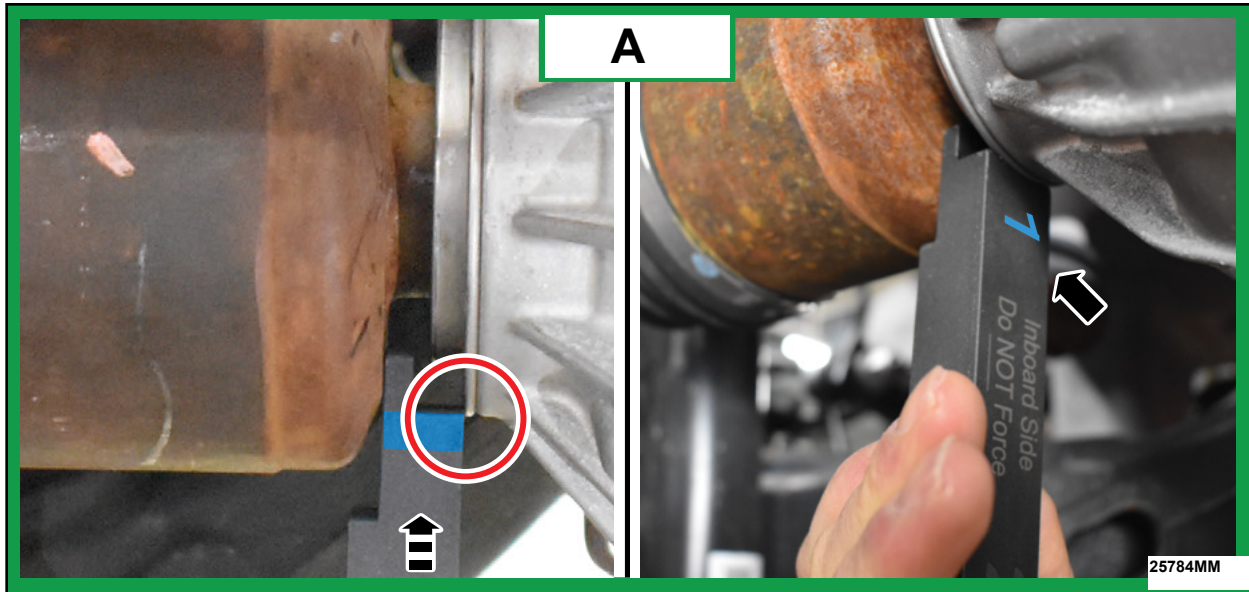

FIGURE 2
3. Reduce end play by using hand pressure to push the left-hand (LH) rear halfshaft inboard joint toward the rear electric drive assembly.
4. Without forcing, does gauge **Side 1** fit in the gap as shown in Figures 2 and 3?